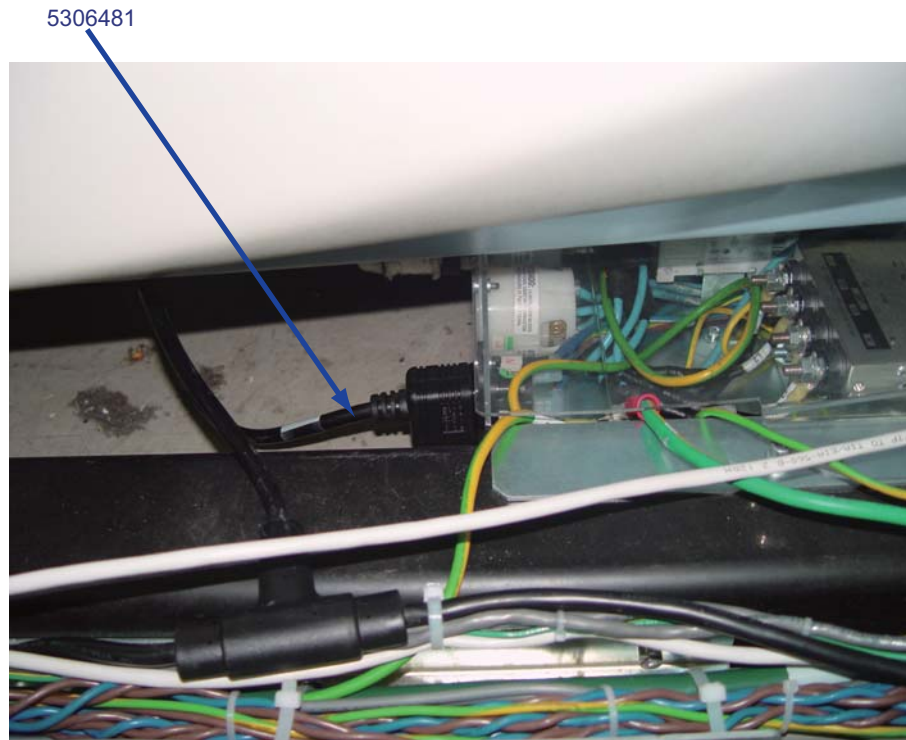

Figure 2-16 Cable to Power Pan
- 9.) Connect cable 5306481 to Power Pan, Gantry should be tilt 25° forward to access the connector, as shown in Figure 2-16.